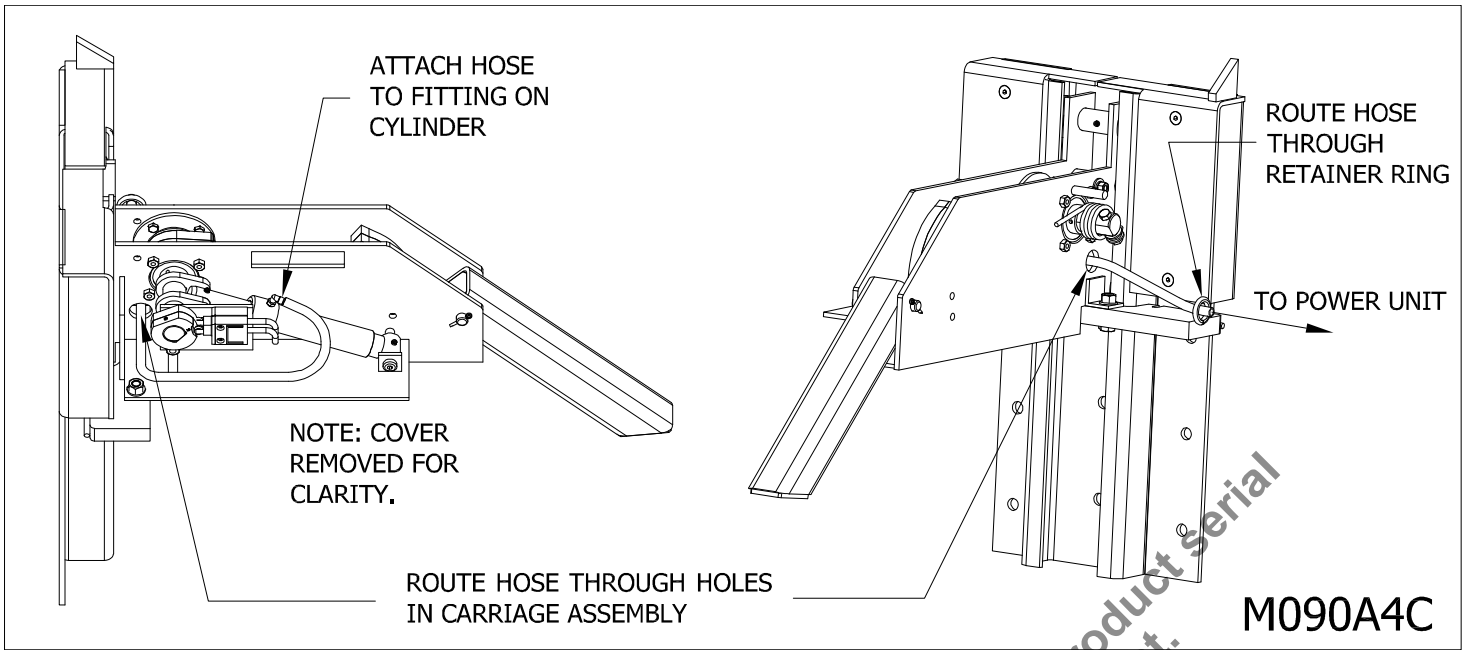

Figure 11: Hose Routing
2. ___ Feed the hydraulic hose through the conduit from the power unit to the cylinder on the restraint (See “Figure 11: Hose Routing” on page 16). Connect and secure.